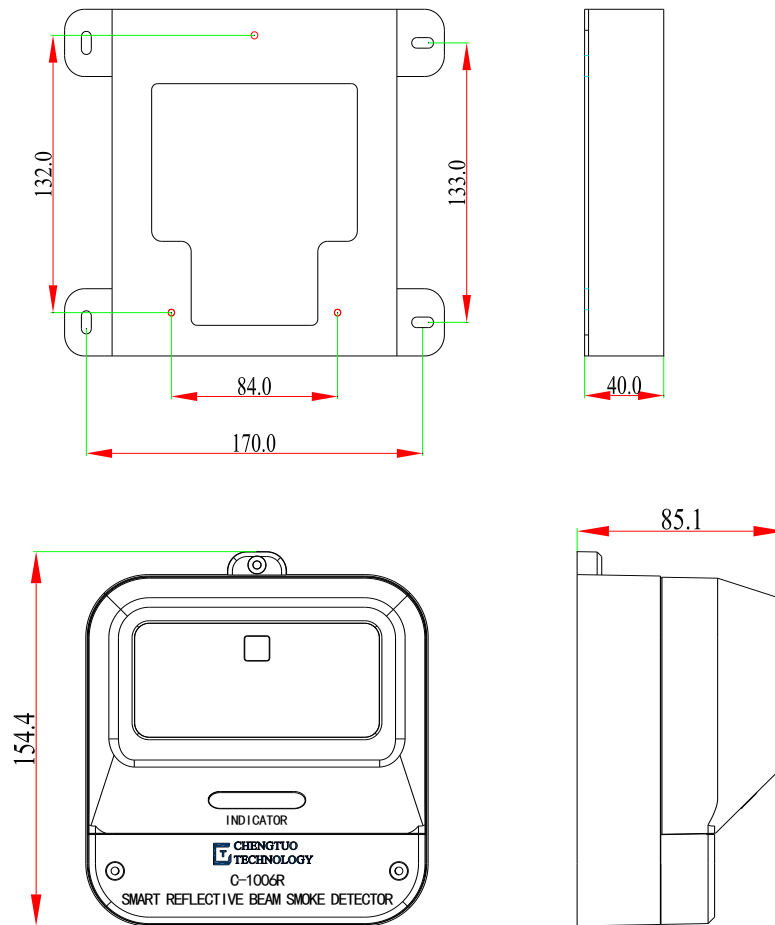

Figure 4 Detector Diagram
4. Fix the detector base onto the bracket using three M3\*10 screws. Refer to Figure 4.